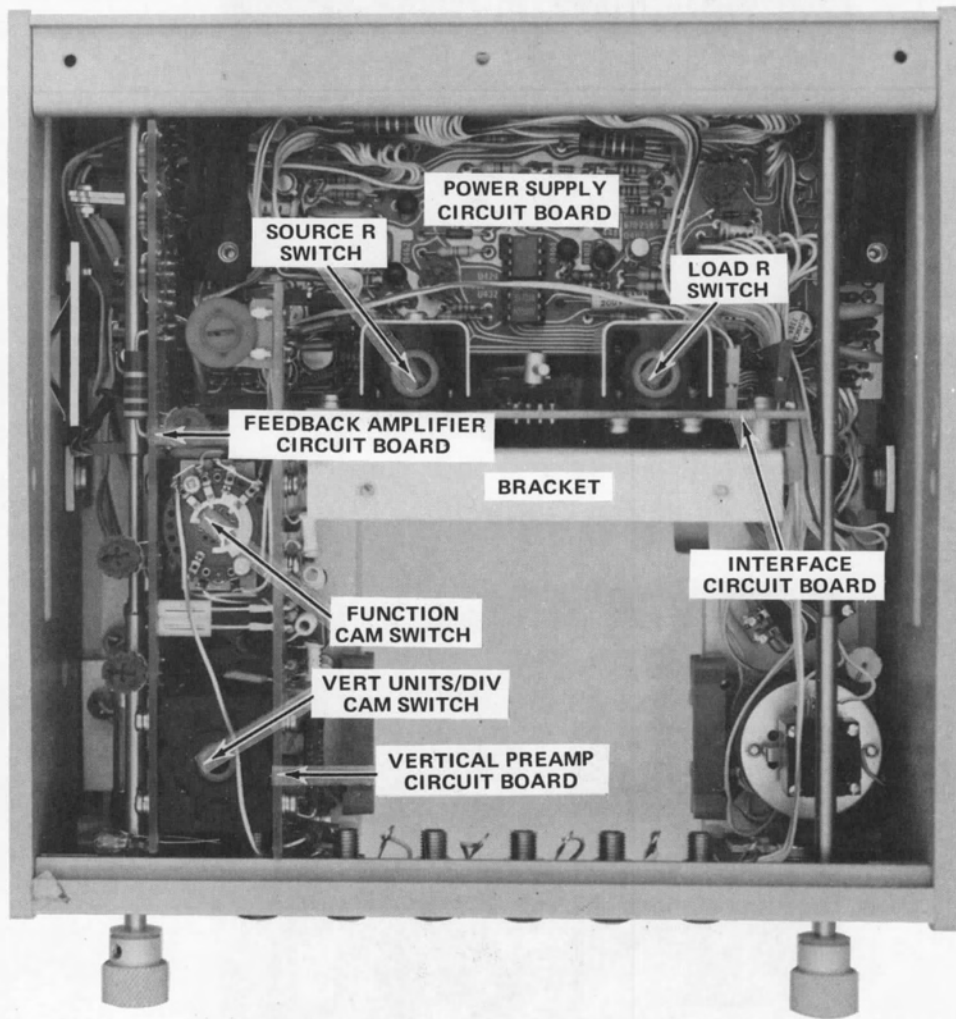

Fig. 4-5. Location of circuit boards in the 178.
- a. Remove the eleven multi-pin connectors from the Power Supply circuit board. See Fig. 4-5 for circuit-board location.